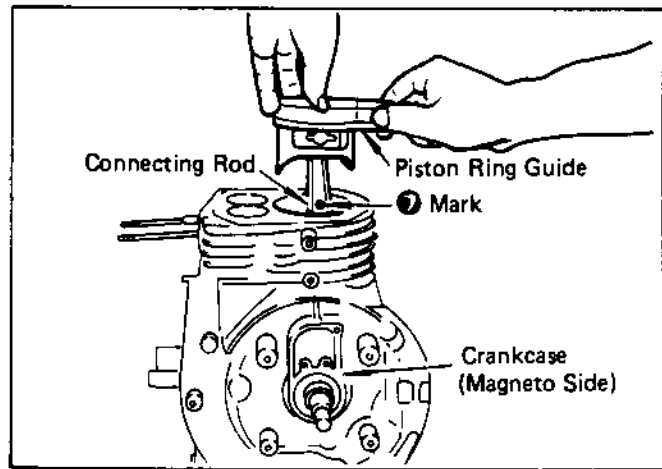

Fig. 30
- 3) When installing the connecting rod into place, hold piston rings with the ring guide as shown in Fig. 30 (if no ring guide is available, keep pressing the piston rings with finger tips and gently strike the top of the piston with a wooden piece or the like to push it in), and check that the symbol  or mark MA on the connecting rod is in the direction of the flywheel magneto.